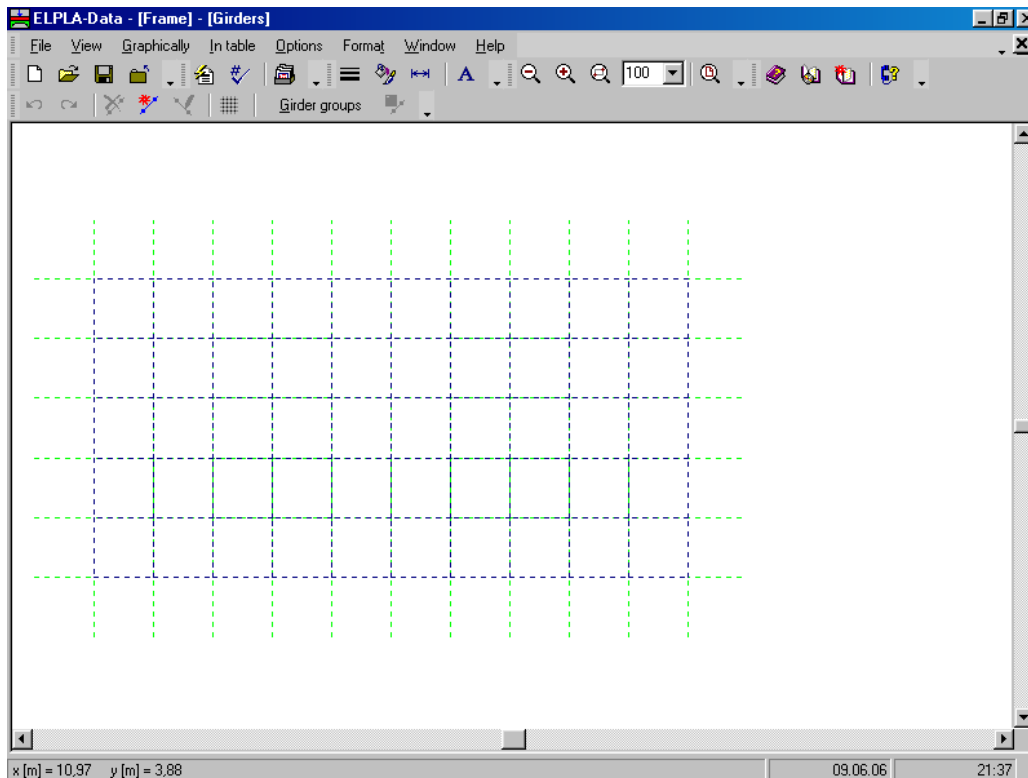

Figure 7-11 "Girders" embedded program
To define the frame members, choose "Girders" command from "Data" menu of *ELPLA-Data*. The following embedded program in Figure 7-11 appears.
- Choose "Girder groups" command from "In table" menu in Figure 7-11.